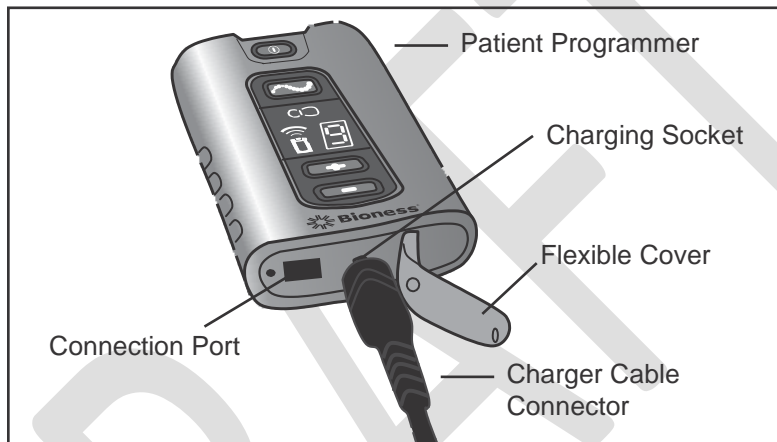

Figure 6-4. Charging the patient programmer.
2. If necessary, charge the patient programmer using the system charger set provided in the User Kit. Insert the Y cable connector into the charging socket; plug the charger into a power socket. See Figure 6-4.